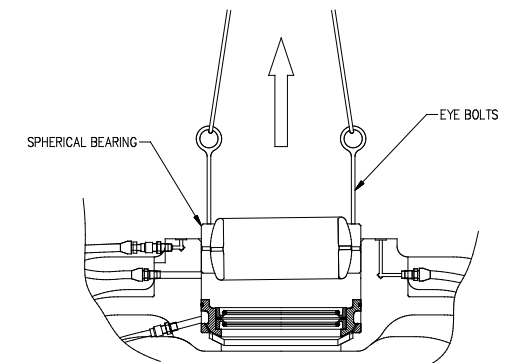

Fig. 6.4.2
4. Fit eye-bolts to the spherical bearing and withdraw it while keeping it horizontal. When difficulty is experienced extracting the spherical bearing, slowly and evenly warm the spherical bearing housing by means of a burner. (Fig.6.4.2)